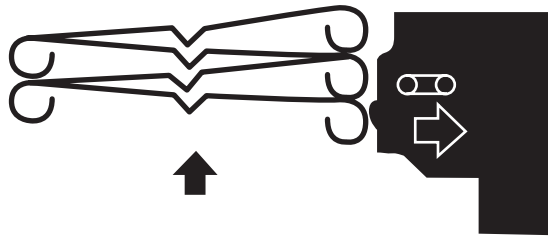

Figure 23. Resetting the EDG Room Fire Flaps
3. Reset the EDG room fire flaps (figure 22, items 3 and 4) by pulling up from the bottom. The sections for the EDG room fire flap should fold up like a fan (figure 23) as they are raised. Once the EDG room fire flaps are fully raised, they will latch into place.